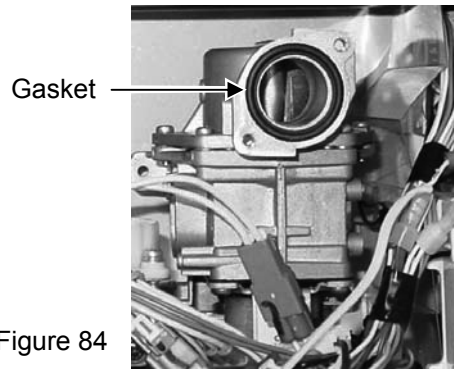

Figure 84
26. Make sure that the black gasket (Figure 84) is intact on the gas control assembly. Replace the lower and upper gaskets (included in kit) for the manifold plate removing any residue. (Figure 85)